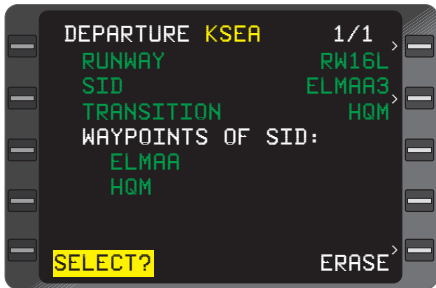

Figure 3-26
11. Departure **SID** Waypoints - REVIEW (Figure 3-26), then DEPRESS the **ENT** Key to select the SID and insert it into Active Flight Plan. The display will automatically return to the **ACTIVE FLIGHT PLAN** Page.